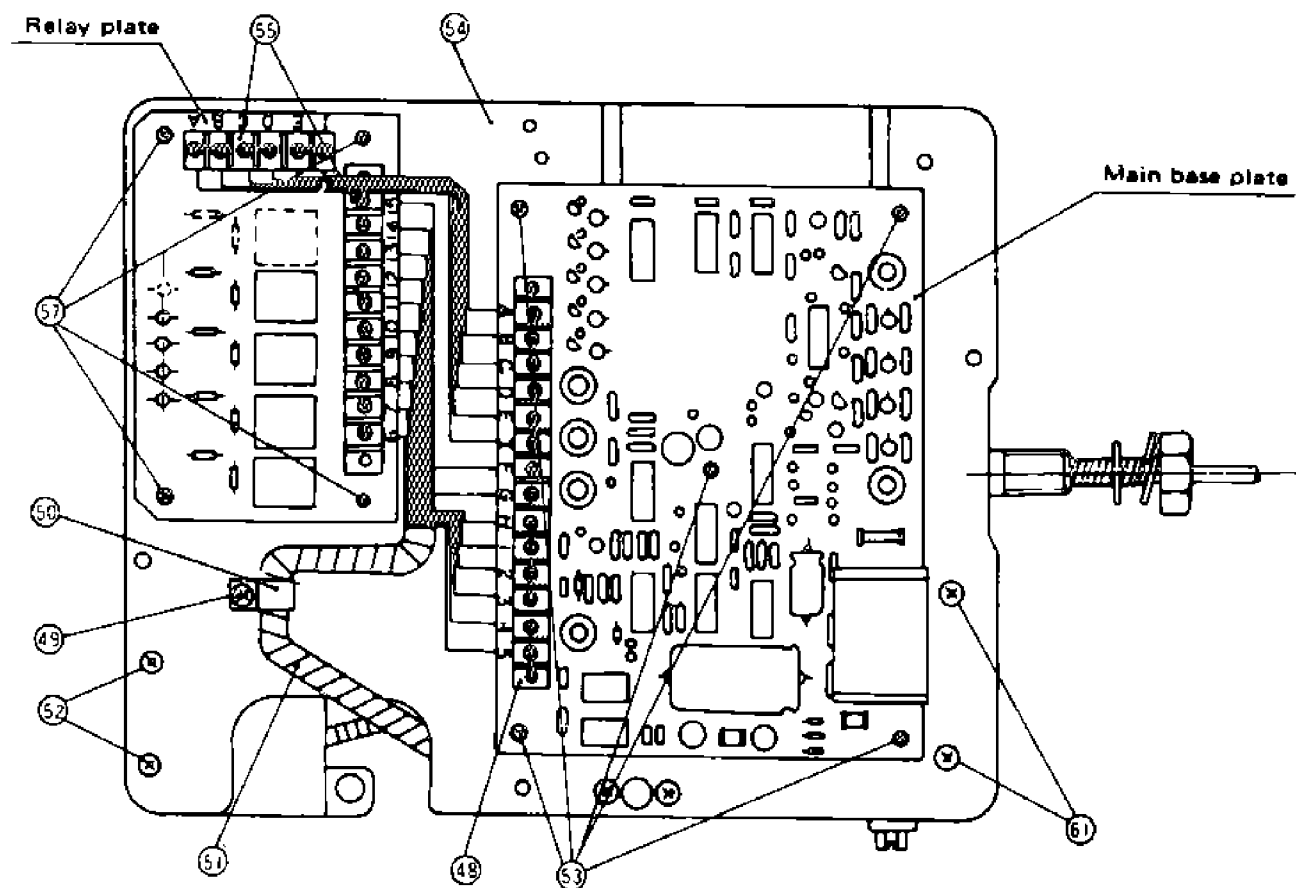

Fig. 4 Internal device assembly
(2) Remove the internal device assembly. Loosen four hexagnal nuts (11) and screws (46) and remove the internal device assembly from the main body (1) and turn it back. Then it looks as shown in Fig. 4.
(2) Measuring resistance of the volume setter
- Adjust the volume setter as shown in Fig. 4 in accordance with Article d, (2).
- Remove the lead wires (3 pcs, F. G. H.) which are laid from the volume setter from the terminal (48) (14P) on the terminal strip of the main base plate and measure resistance between G and H of the lead wires.
(3) Replacing points
- From the state of the volume setter as shown in Fig. 4, loosen screw (49), remove power source plug (50), remove the spiral tube (51) from the wires. Then remove two screw bolts (52) and the volume setter can be removed from the base (54).
- After replacing the volume setter with a new one, inspect and adjust it in accordance with Articles c. (1).① and c. (1).②
② Main base plate
(1) Replacing standards
- In case the volume setter shows the phenomena as stated in Article d,(2). ① Replacing standards and yet it has no trouble or the same phenomena take place after replacing the volume setter.
(2) Replacing points
- Adjust the volume setter as shown in Fig. 4 in accordance with Article d, (1).
- Remove the wires (14 pcs Nos A~H, 1~5) from the terminal strip (48) on the main base plate.
- Remove 5 screws (53) to remove the base (54) from the main base plate, so replace it with new one.
③ Relay base
- Adjust it as shown in Fig. 4 in accordance with Article d, (1).
- Remove the wires (14 pcs No.A~E, F~H, I, 1~5) from the terminal strip (55) on the relay base plate.
- Loosen four screws (57), and the relay base plate can be removed from the base (54). So replace the relay base plate with a new one.
- When replacing the timer, replace the attached vibration isolators (5 pcs) at the same time. The red wires are for + current and the black wires-current. Connect the wires to the terminal strip (56) in a way that red wires are connected to red and the black wires to black. Tightening torque for vibration rubber is 4~5kg-cm.
④ Feeler tube—element
- After having adjusted the recording part in accordance with Article c. (2).②, operate the unit with temperature setting within $-18\sim+10^{\circ}\text{C}$ ($-0.4\sim50^{\circ}\text{F}$). If temperature indication differs from temperature setting by over 2°C (4°F) although inside temperature becomes stable to its temperature setting. (In case temperature indication is minus far from feeler tube temperature, gas may leak from the feeler tube)
(2) Replacing method
- Take out the internal assembly as stated in Article d, (1) and turn it inside out, which in shown is Fig. 4.
- Loosen two screw bolts (61) to remove the feeler tube—element and replace it with new one.
- After replacement, inspect and adjust it in accordance with Article c. (2)